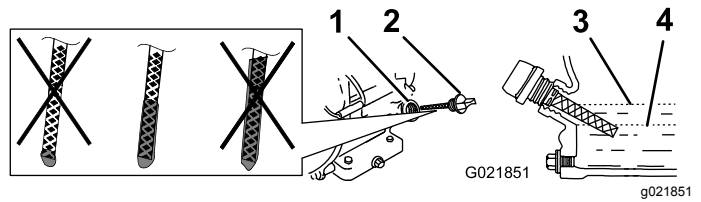

Figure 19
6. Insert the dipstick fully into the fill hole, but **do not screw it in** (Figure 19).
7. Remove the dipstick again and look at the end. If the engine-oil level is low, slowly pour only enough oil into the fill hole to raise the level to the Full mark on the dipstick (Figure 19).
4. Clean around the dipstick (Figure 19) so that dirt cannot fall into the fill hole and damage the engine.